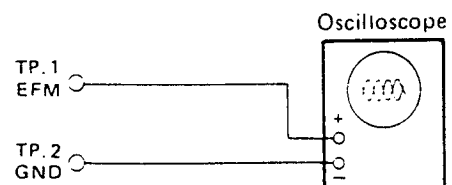

Fig. 26
(1) Instrument to be used
(2) Adjusting procedure
- [1] Connect the oscilloscope to TP.1 (EFM) and TP.2 (GND). (Fig. 26)